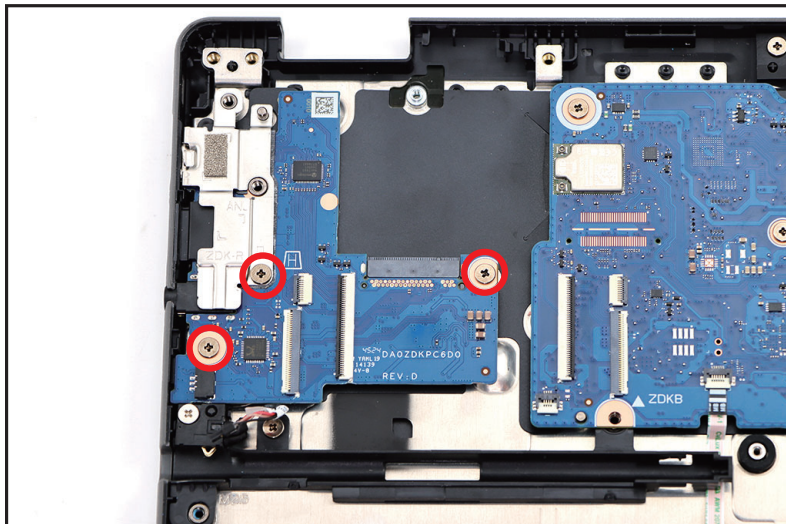

Figure 1-32. LTE Board Removal
5. Remove three (3) screws securing the LTE board and I/O bracket (Figure 1-32).